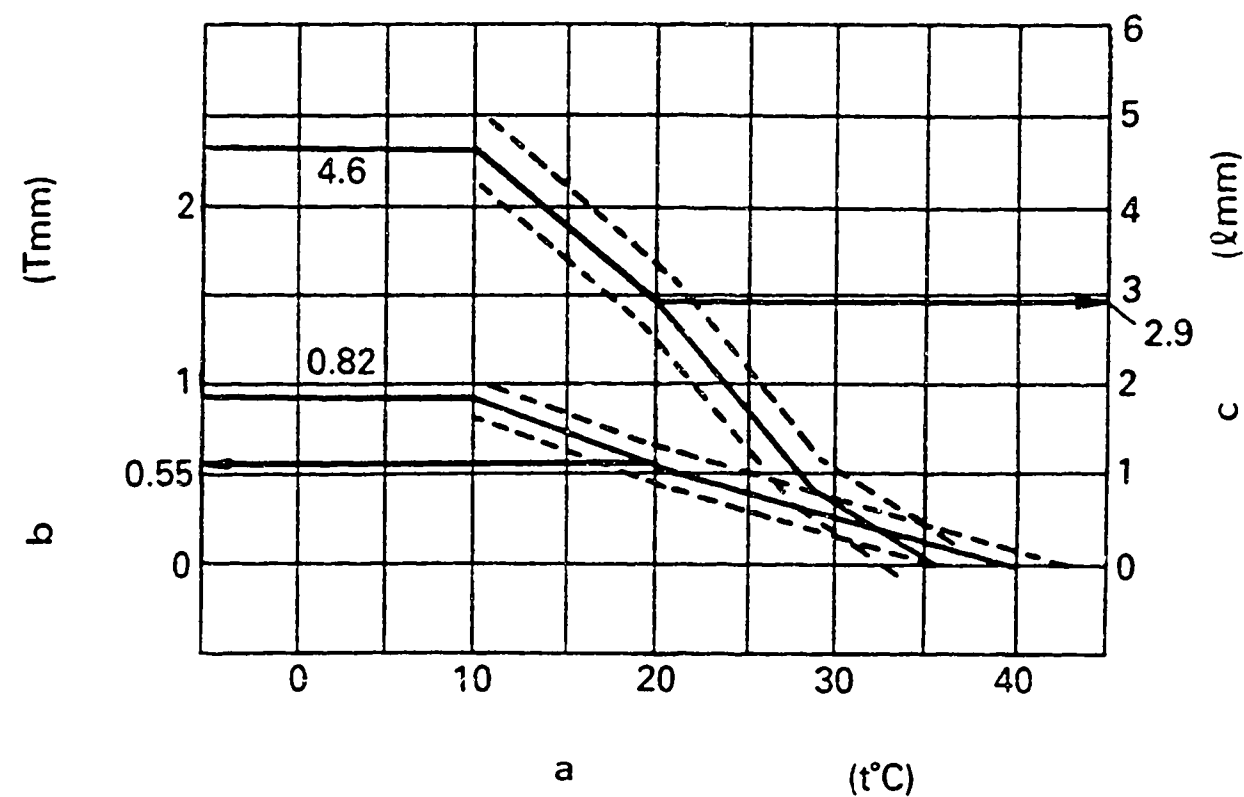

Fig. 47
Calculate the timer stroke from Fig. 47 according to the atmospheric temperature at the time of adjustment. Adjust using timer stroke adjusting screw (1) so that the timer stroke is as calculated in Fig. 47.
Insert the thickness gauge  $l = \pm 0.05$  mm, as shown in the diagram (Fig. 47), between the idling adjusting bolt (7) and the control lever (6), and tighten the idling stopper bolt (2) at the point where the roller of the CSD lever (3) touches the intermediate lever (4).